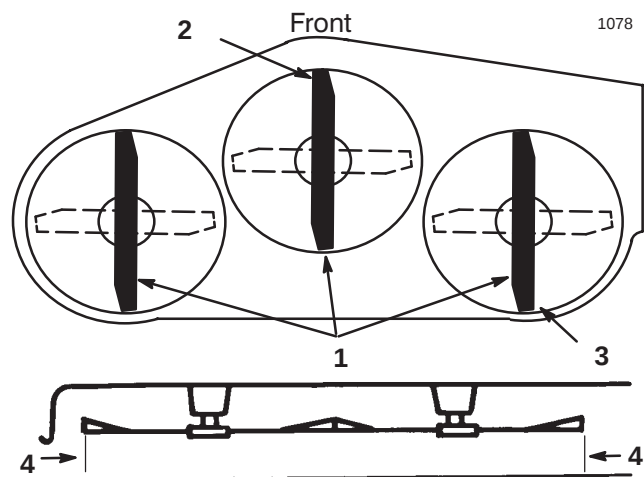

Figure 41
5. Set the height-of-cut at 3 in. (76 mm) and carefully rotate the blades so they are facing front to rear (Fig. 41).
- Measure between the tip of the front blade (Fig. 41) and the tip of the rear blade to the flat surface. If the front blade tip is not 1/16–5/16 in. (1.6–7.9 mm) lower than the rear blade tip, adjust the front trunion rods.
- After adjusting both trunion rod yokes evenly, secure the yokes with the hairpin cotters. Check the front-to-rear level again. Continue adjusting the yokes until the front blade tip is 1/16–5/16 in. (1.6–7.9 mm) lower than the rear blade tip (Fig. 41).